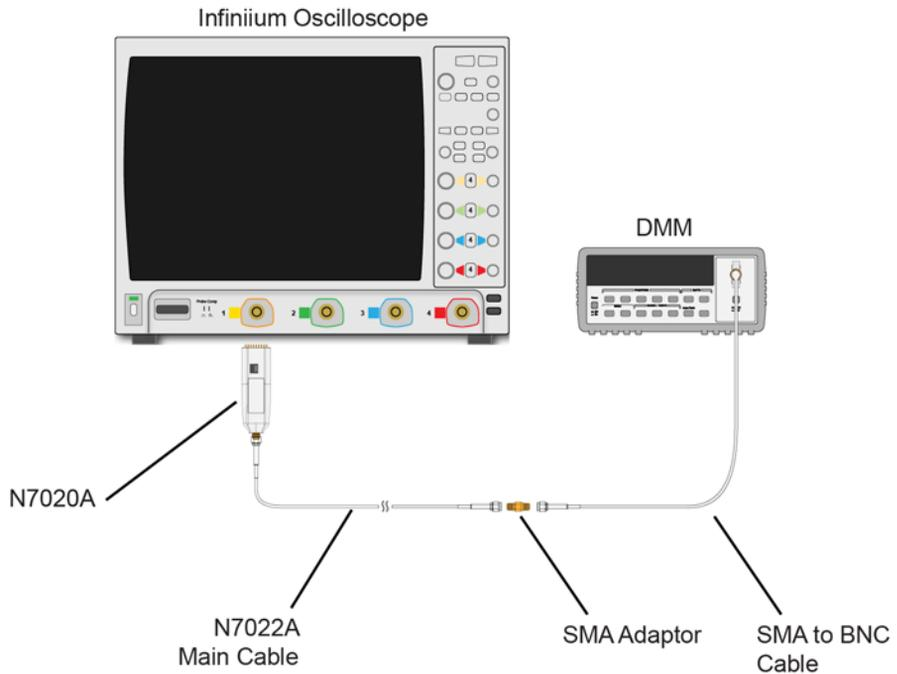

Figure 18 Test Setup
- 1 Connect the equipment as shown in Figure 18.